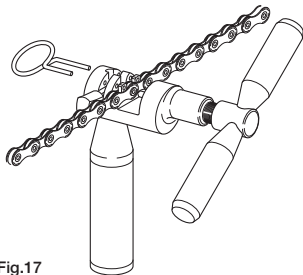

Fig.17
- Insert the link to close into the provided seats (Fig. 17).